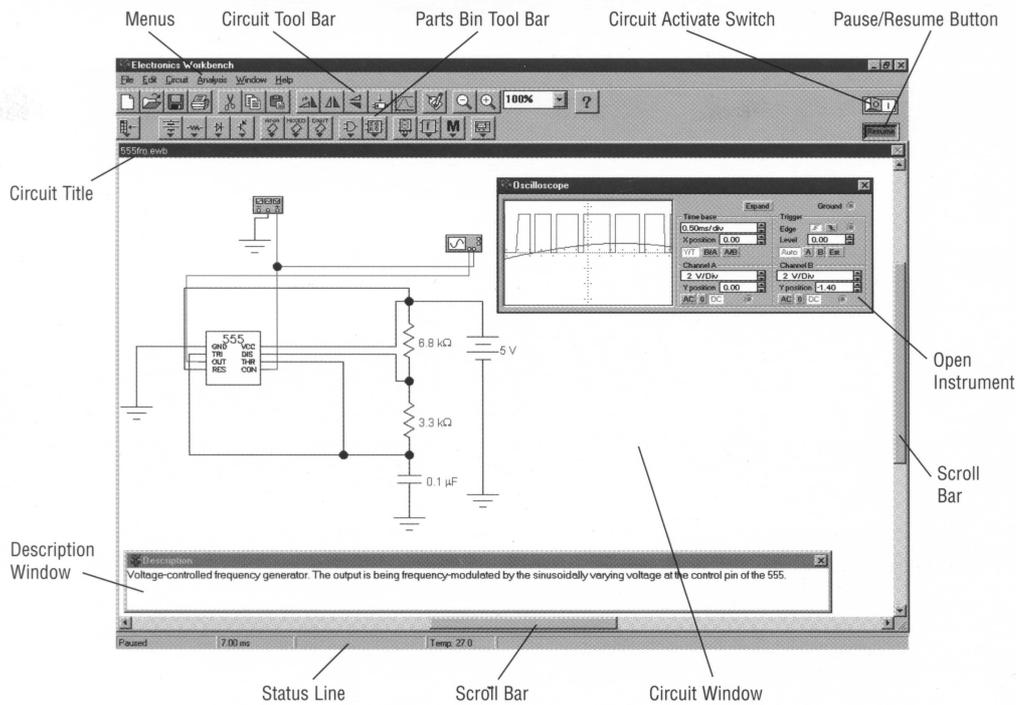

Figure 1.1: Electronics Workbench screen
*Electronics Workbench* is essentially “an electronics lab in a computer”, and the way it appears on your computer screen is shown in Fig. 1.1. The white field in the middle is the workspace into which you drag various components and devices found in the multiple parts bins divided into several categories, just above the workspace. When you then bring the mouse near the edges of